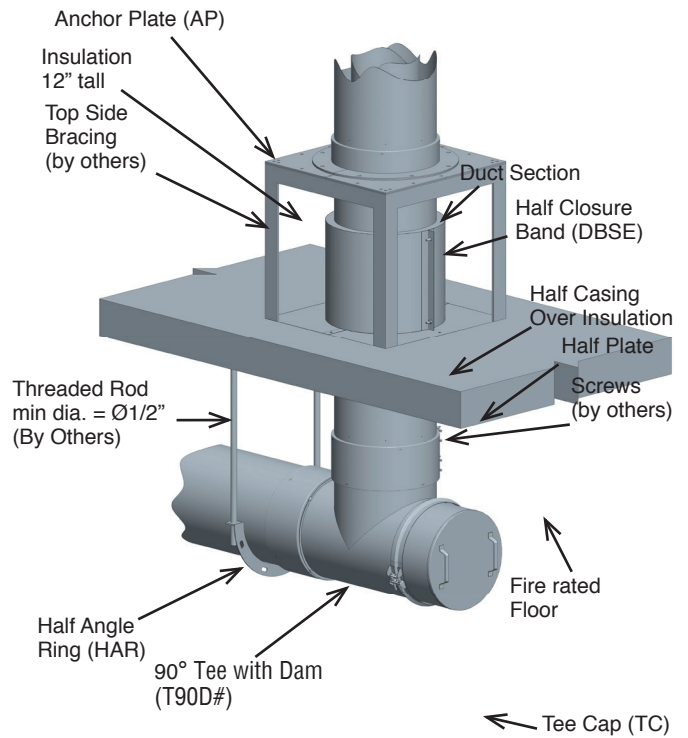
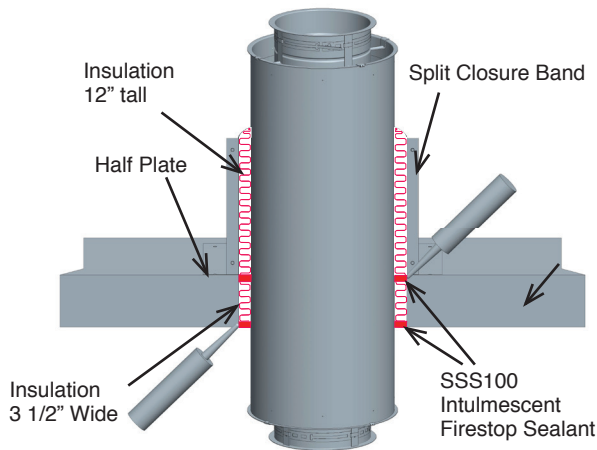

Figure 107: Supports for Duct passing through a fire-rated Floor-Ceiling (DIS3Z only)
Figure 109: Through Penetration Firestop fire-rated Floor Penetration (DIS3Z only)
Supports for ducts that penetrate a fire-resistant floor are to be positioned on the top side of the floor. Include supports as per the height limits in **Table 5** and use either an Anchor Plate (AP) or an Anchor Plate with Length (APL) installed above structural framing members as shown in **Figure 107**. Where a transition from horizontal to vertical occurs beneath a floor / ceiling assembly, support the horizontal portion beneath the floor using Half Angle Rings (HAR) with a minimum 1/2" dia. threaded rod. Install one HAR on the section adjacent to the Tee and include additional Half Angle Rings (or other, appropriate supports) for the horizontal portion of the system in accordance with **Table 7**.
NOTE:- For Floor Penetration, use one TPFK. See **Figure 109** and **Figure 107**.
4. Apply a minimum 1/2" depth of **S-TPFS** (SSS100 from SpecSeal), flush with both surfaces of the wall. See **Figure 109**.